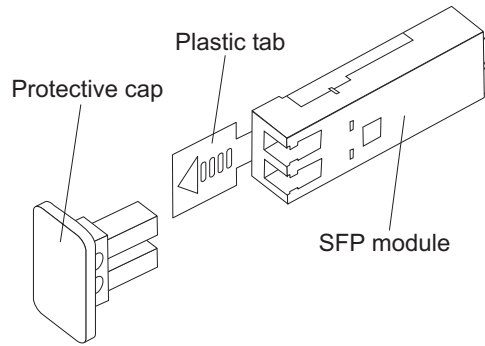

Figure 31. Installing an SFP module into the host port
4. Insert the SFP module into the host port until it clicks into place. See Figure 31 on page 53.